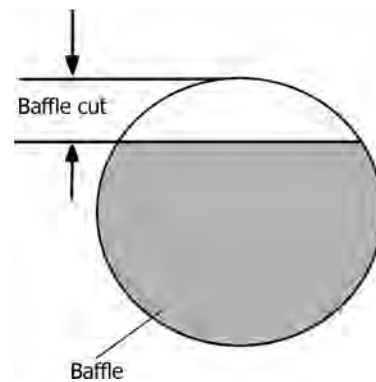

FIGURE 10.24 Baffle cut.
- Baffle cut is the height of the segment that is cut in each baffle to permit the shell side fluid to flow across the baffle. Baffle cut is expressed as the percentage of shell inside diameter not covered by the baffle (Figure 10.24).